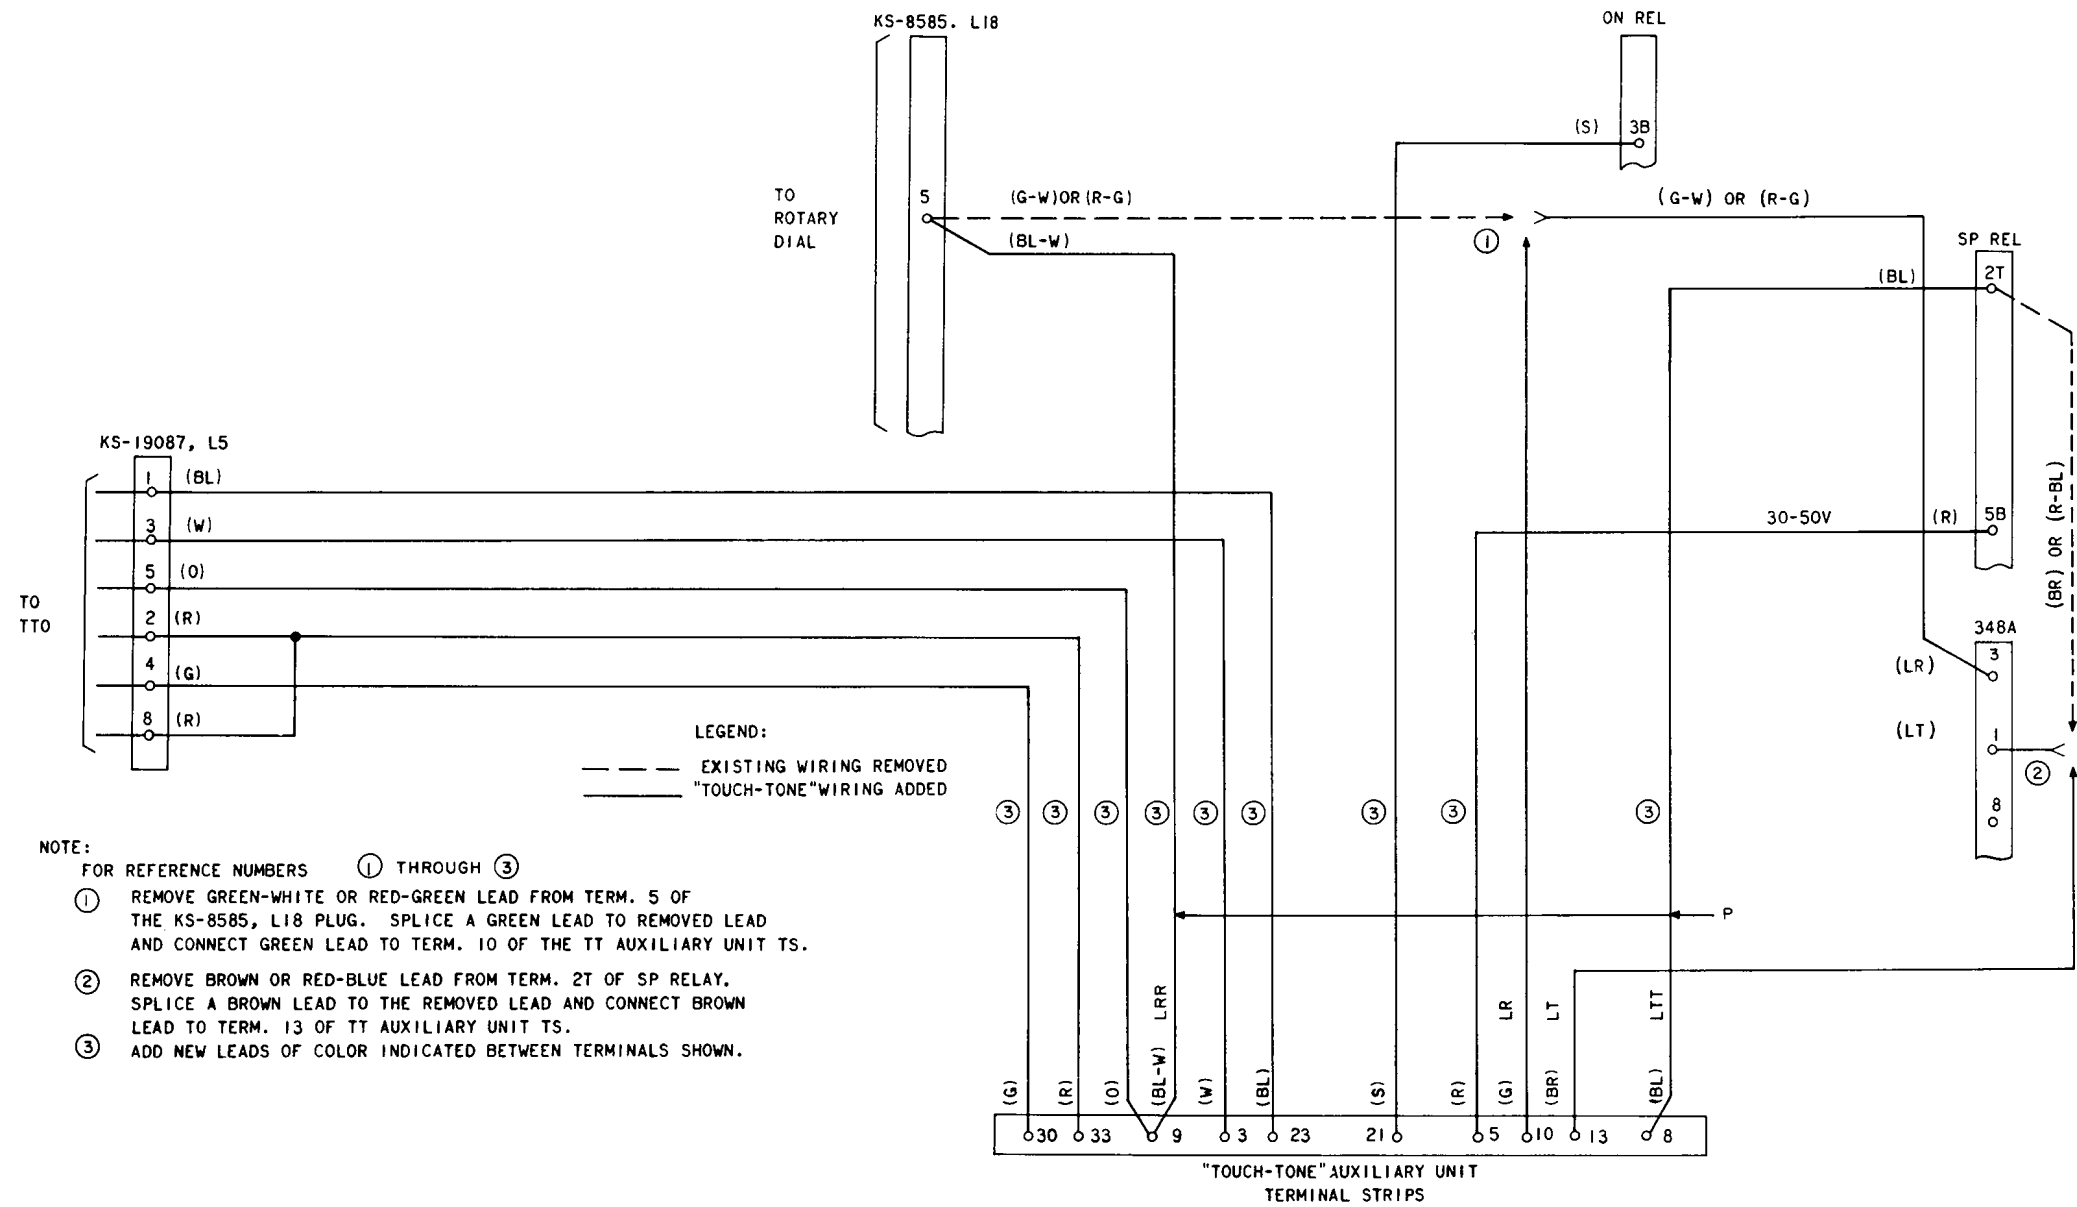

Fig. 9—TOUCH-TONE Equipment Connections for 555 PBX using Both Rotary and TOUCH-TONE Dials
3.19 To make connections for adding the TOUCH-TONE dial and auxiliary unit to the existing rotary dial unit, refer to Fig. 9.